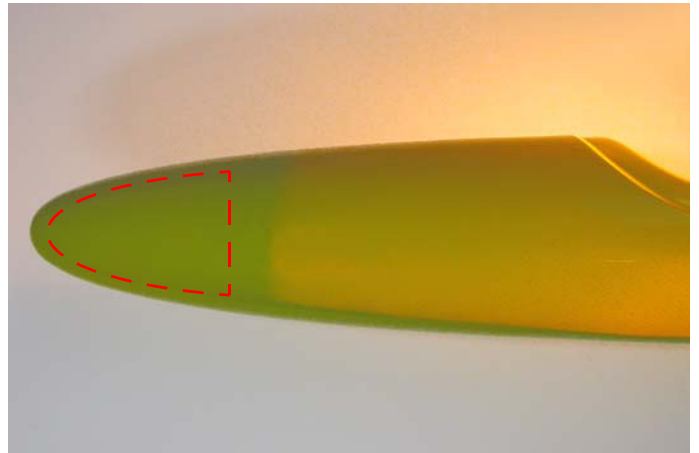

Fig.48: Position for the weights.
- Using some epoxy, fasten about **150 ~ 200 g** of weights in the position shown in figure 48;